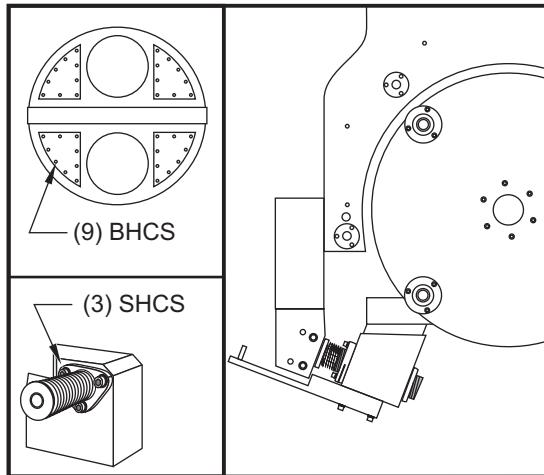

Figure 3.12-6.
4. Loosen the two SHCS that hold each of the hardstops (2) in place and remove hardstop(s). Manually rotate the H-frame to its full rotational swing and lower the lifting mechanism.
7. Run pallet change commands and observe operation. (H-Frame full rotation shown in Figure 3.12-6.)